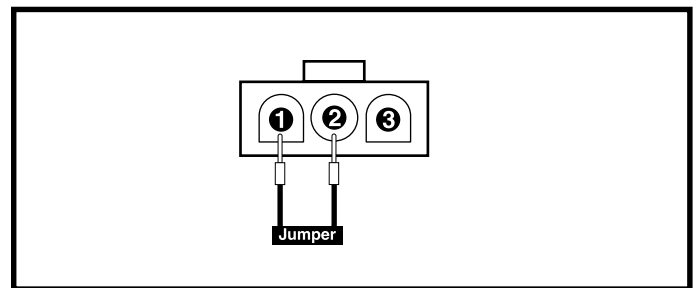

Figure 6. Connector 5b - Jumpered
8. Place a jumper in pin 1 and pin 2 of connector 5b and attempt to drive the power chair. **See figure 6.**
- *If the power chair drives*, then replace the battery charger (6) and retest the system.